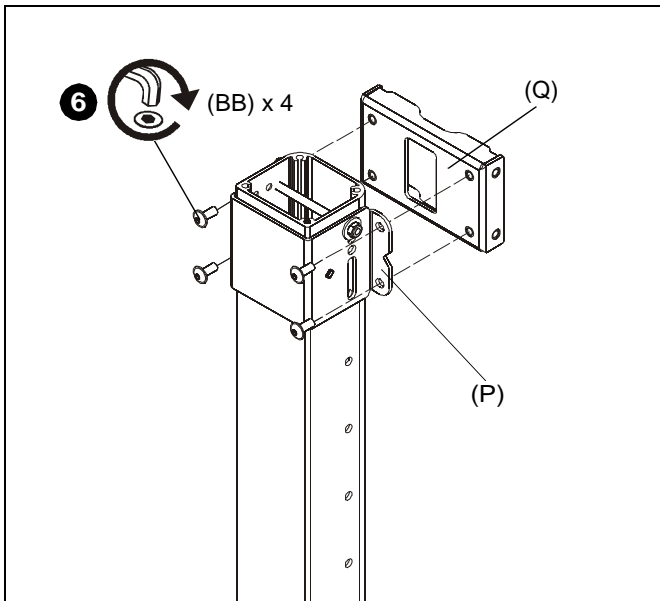

Figure 8
- Use four 5/16-18 x 3/4" button head flange screws (BB) to secure each attached clamp bracket (P) to each quick connect base (Q). (See Figure 8)